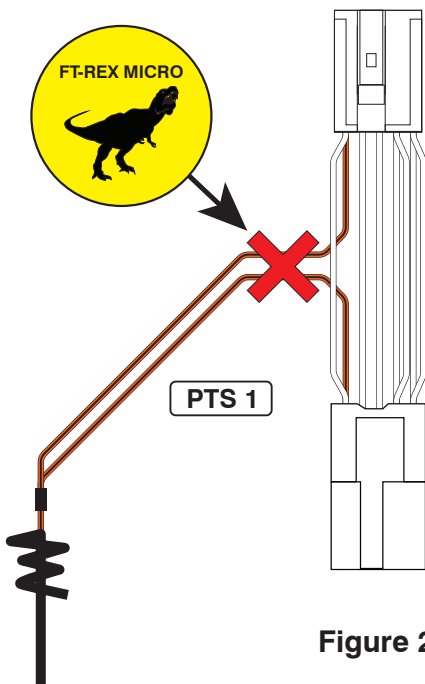

Figure 2
Step 2 of the modification (Figure 2), cut and strip the existing PTS connection. Step 3 reconnect the PTS circuit (soldering is preferred) and insulate connection. Step 4 connect the harness PTS circuit to the wire in pin #8 of the PTS button connector (solder is once again preferred) and secure the connections to avoid possible damage and or short circuits.